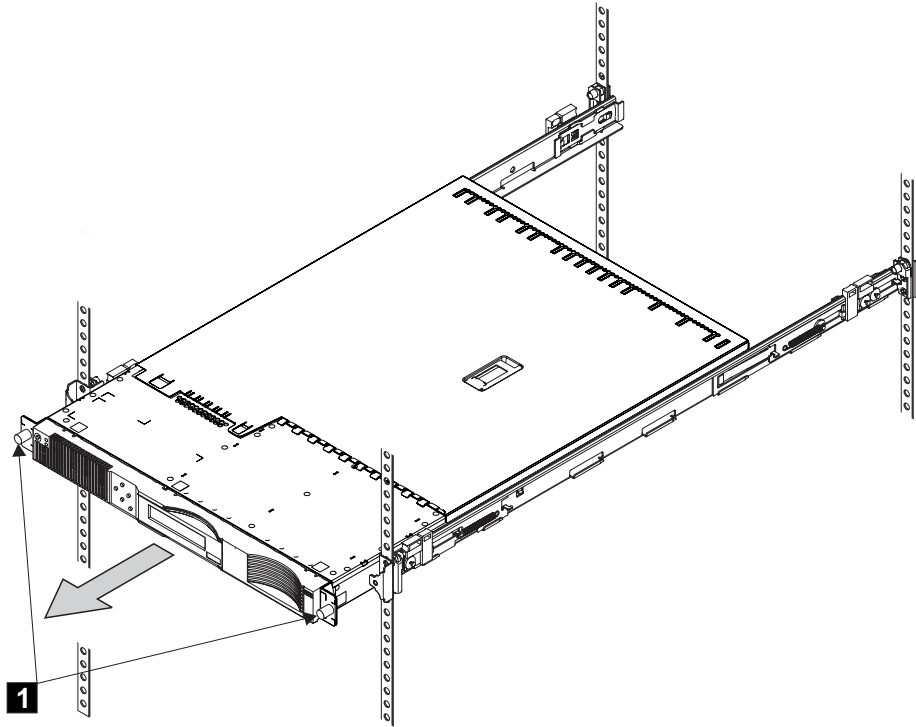

Figure 69. Loosening the front screws to remove the SAN Volume Controller 2145-4F2
1. Unscrew the two front screws (**1** in Figure 69 on page 346).